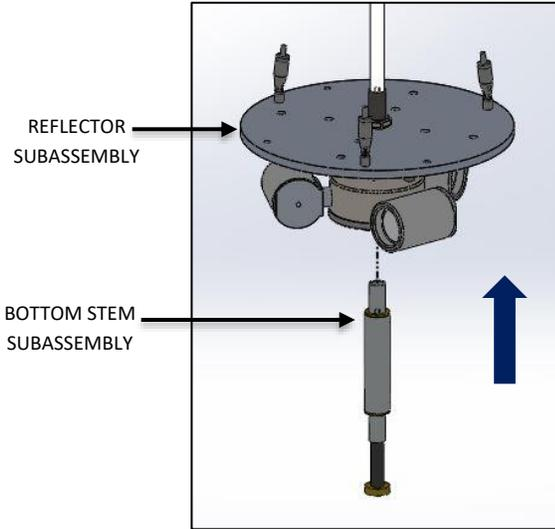
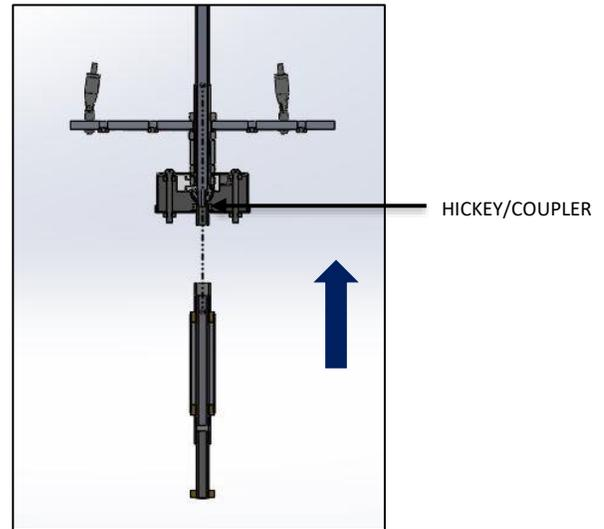

FIG. 12 – BOTTOM STEM
FIG. 13 – SECTION VIEW SHOWING BOTTOM
1. Attach **BOTTOM STEM** to **REFLECTOR SUBASSEMBLY**.as shown in FIG.12. To the **HICKEY/COUPLER** which is preassembled inside of **REFLECTOR SUBASSEMBLY**.as shown in FIG. 13.